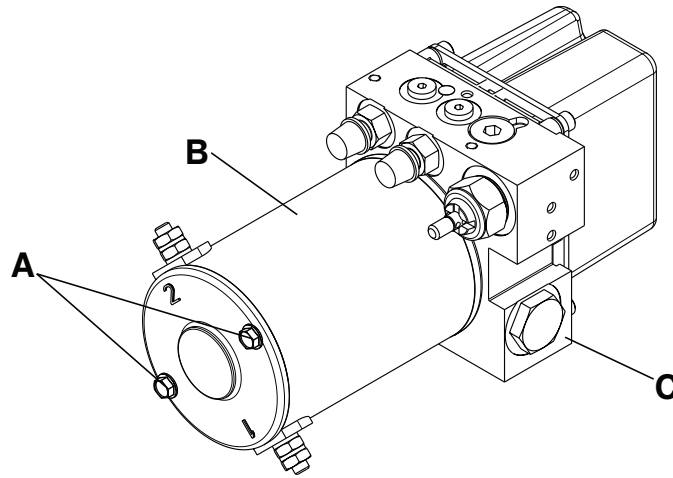

Figure 43 – Motor replacement parts
4. Using a 9/32" socket and 1/4" drive ratchet, remove the two bolts (A) that secure the motor (B) to the hydraulic manifold assembly (C) (Figure 43). Save the bolts.